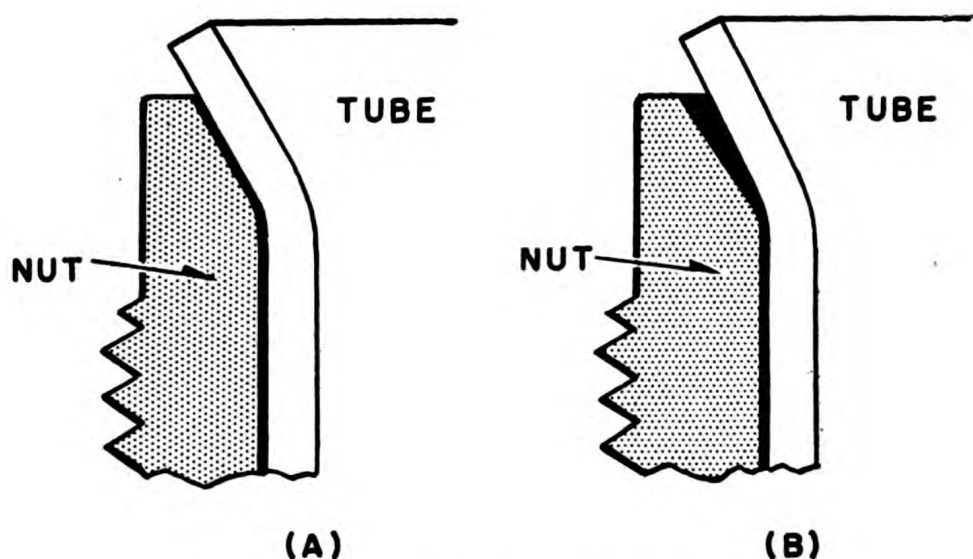

Figure 220.—Correct and incorrect radius.
the fitting, the radius will automatically be correct. Flaring blocks are originally provided with the correct radius. You will obtain this radius, IF correct flaring pins are used. Make-shift wooden flaring blocks quickly flatten out at this point and should not be used. Figure 220 (A) shows a good job of flaring in which the radius at the base of the flare coincides with that on the tube nut. Figure 220 (B) shows an incorrect flare. The thickness of the flare at its edge must not be less than 82 percent of the original wall thickness. If a flare has been drawn down by a fitting, it must retain 50 percent of its original wall thickness. Otherwise, the flare must be cut off and a new one made.